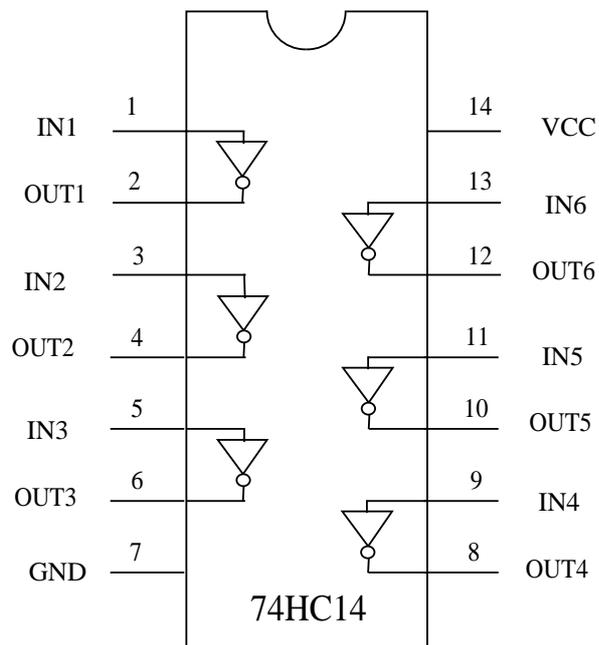

Figure 2: Pin assignments for the 74HC14 inverter chip.
- (4-2) Following your design from Pre-Lab Exercise 4-1, construct the clock using the 74HC14 inverter chip obtained earlier. Figure 2 shows the pin assignments for the inverter chip. Use any two of the inverters in the chip, and leave the others unconnected. Do not yet connect the clock output v_{CLK} to the clock input of the counter. Rather, use one channel of the oscilloscope to observe the oscillator output v_{OSC} , and trigger the oscilloscope from that channel. Use the other channel to observe v_{CAP} and the clock output v_{CLK} . Compare what you observe with the oscilloscope to the graph prepared during Pre-Lab Exercise 4-2 to determine whether or not the clock is functioning properly. In particular, the clock output v_{CLK} should remain between 0 V and 5 V so as not to damage the counter which it drives. Also test whether the output signal is around 8 kHz.